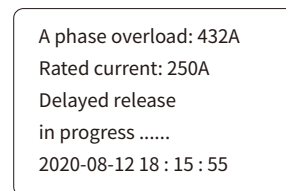

Figure 9
- (2) Overload delay release: When the current value of any phase exceeds 1.3 times of the rated current value, the protector will automatically display the overload parameters and the overload delay will be displayed as shown in Fig. 9.